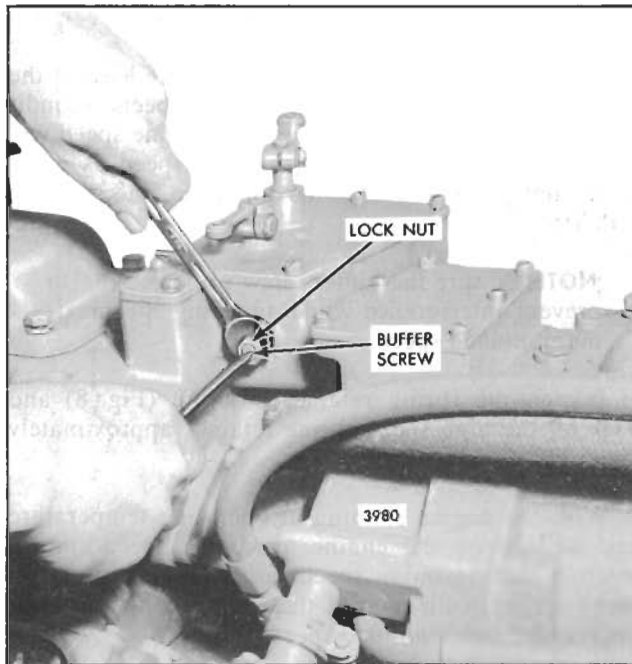

Fig. 10 - Adjusting Buffer Screw
2. Back out the buffer screw (Fig. 10) until it extends approximately 5/8" from the lock nut.
1. With the engine running at normal operating temperature, turn the buffer screw in so it contacts the differential lever as lightly as possible and still eliminates engine roll (Fig. 10).